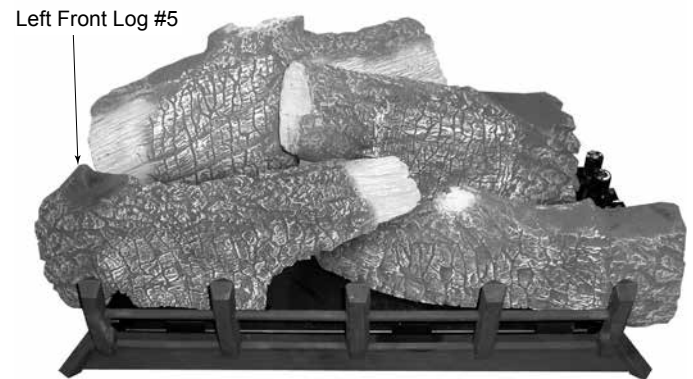

Figure 6.15 - Log #5 Placement
5. Place left front log (#5) on left pin located on burner and left grate bar. Rest top right portion of log on right front log. See Figure 6.15.